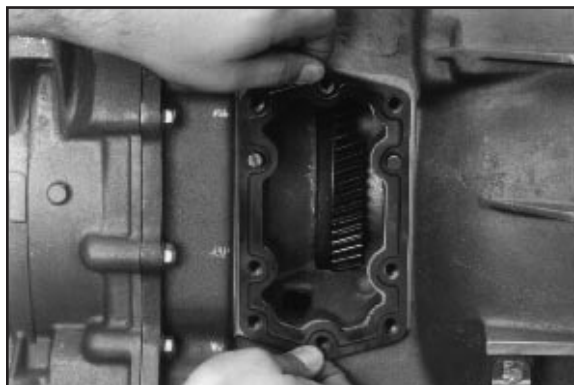

Fig. 5
5. Install the special gasket over the guide pins. The ribbed surface should face outward, toward the installer (**Fig. 5**).